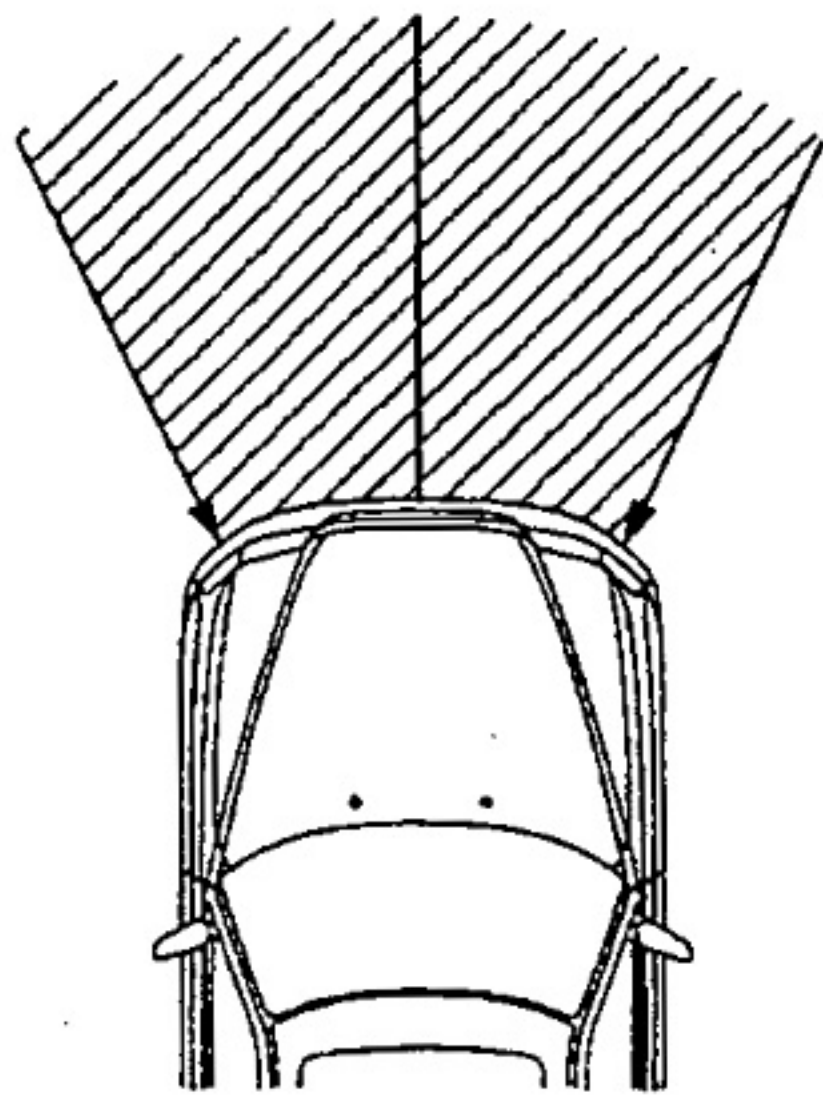

Fig. 1
- When the vehicle collides in the hatched area (Fig. 1) and the shock is larger than a predetermined level, the airbag is activated automatically. The airbag sensor is tuned so that it can judge the need for ignition in response to collisions within the hatched area.